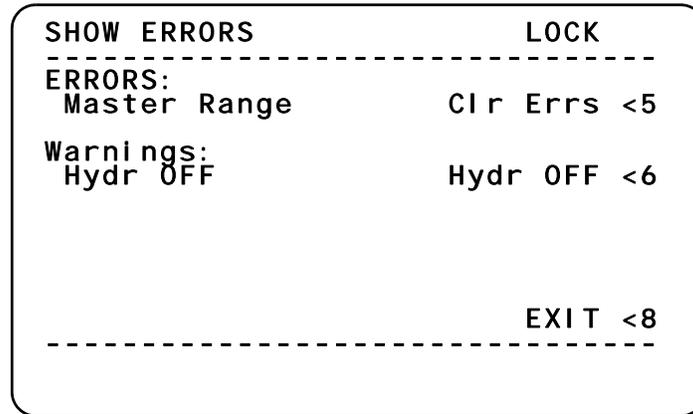

Figure 26 SHOW ERRORS menu
To clear the warning text in all menus, go to the SHOW ERRORS menu (Figure 26) and press the Clr Errs <5 button. If water continues to be detected or is detected again, the warning will reappear.
Use the SHOW ERRORS menu (Figure 26) to:
1. Access the SHOW ERRORS menu: MAIN/ DIAGNOSTICS/SHOW ERRORS (Figure 26 on page 53).